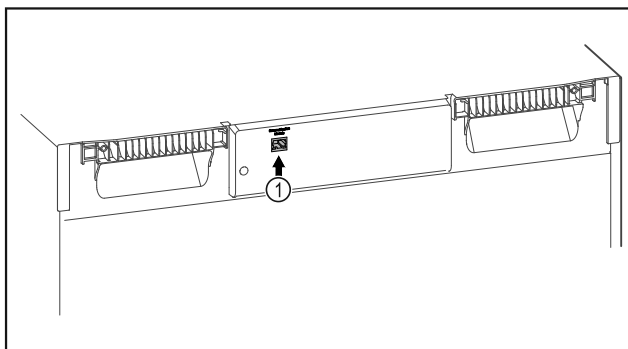

Fig. 115
- SmartModule Fig. 115 (1) is in use.